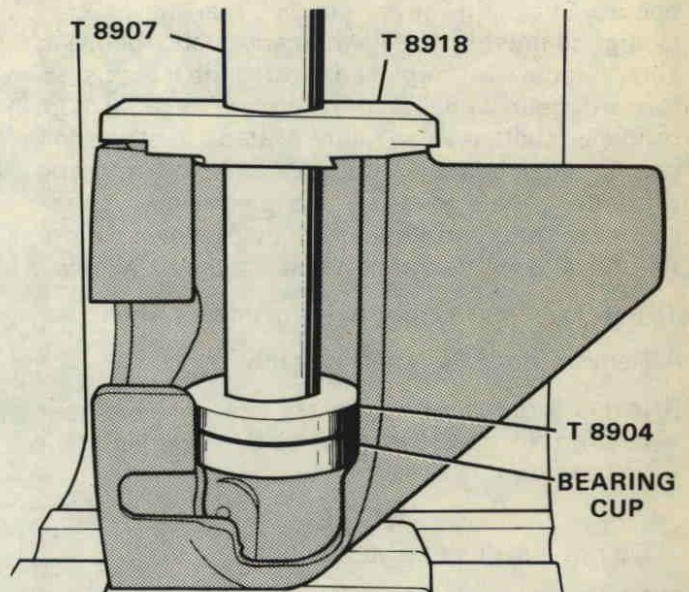

Figure 62. Installing Bearing Cup in Gear Housing.
- B. Press bearing cup in lower gear housing using cup installer (Special Tool No. T 8904) with driver handle (Special Tool No. T 8907) and guide plate (Special Tool No. T 8918) as shown in Figure 62.